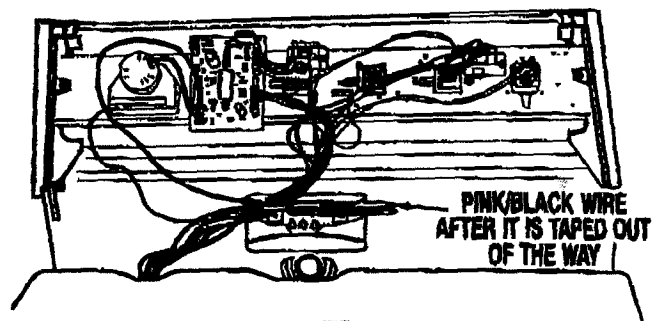

FIGURE 2
9. Locate the two (2) pink/black wires from the main harness that were connected to the AC motor relay. One pink/black wire connects to the control board, the other goes into the body of the dryer. Tape the pink/black wire that goes into the body of the dryer to the main harness. IT WILL NOT BE USED. See Figure 2.
10. Install the new DC coil motor relay, part number 3405281, included in this kit. This relay is the same as the DC coil heat relay. Attach the two (2) light blue wires and the remaining pink/black wire from the main harness. The pink/black wire can be attached to either small terminal on the relay, and the blue wires can be attached to either of the larger terminals. Re-tape the main harness.